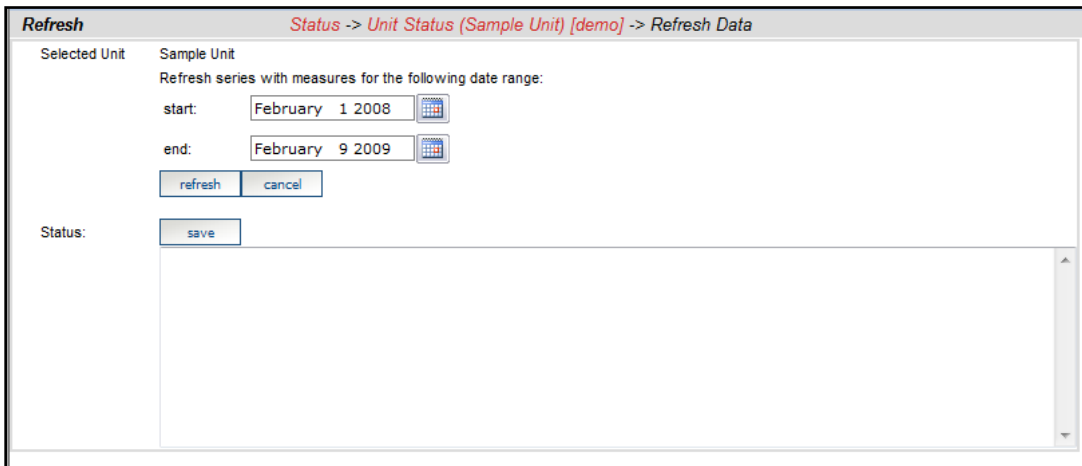

Figure 22
6. Click the refresh button to display the Refresh page (Figure 22).